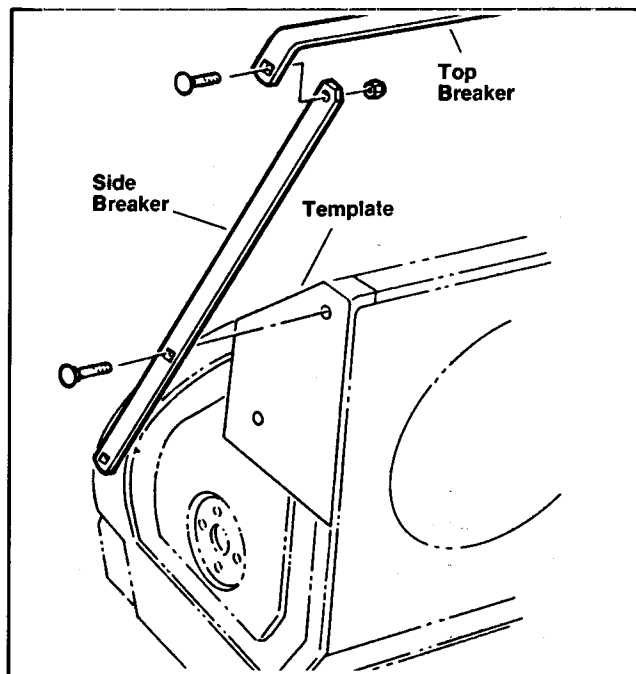

Figure 142
3. Mount a side breaker to each side of the housing with carriage bolts and locknuts. See Figure 142.